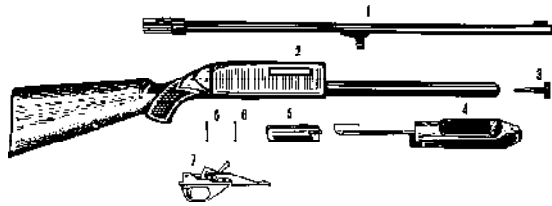

Fig. 3 - IZH81M Assembly Units
3) Fig 3: The trigger assembly can be removed with the barrel and bolt removed or without the barrel and bolt removed. To remove the trigger assembly all you do is remove the two pins that hold the trigger assembly in place and pull the trigger assembly from the receiver. The pins can be removed with a hammer and a punch.